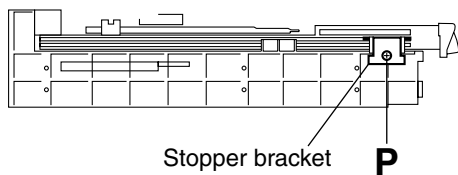

Fig.20
■ **Replacing the CD tray rotor belt of the CD changer, and removing the motor (See Fig.20 and 21)**